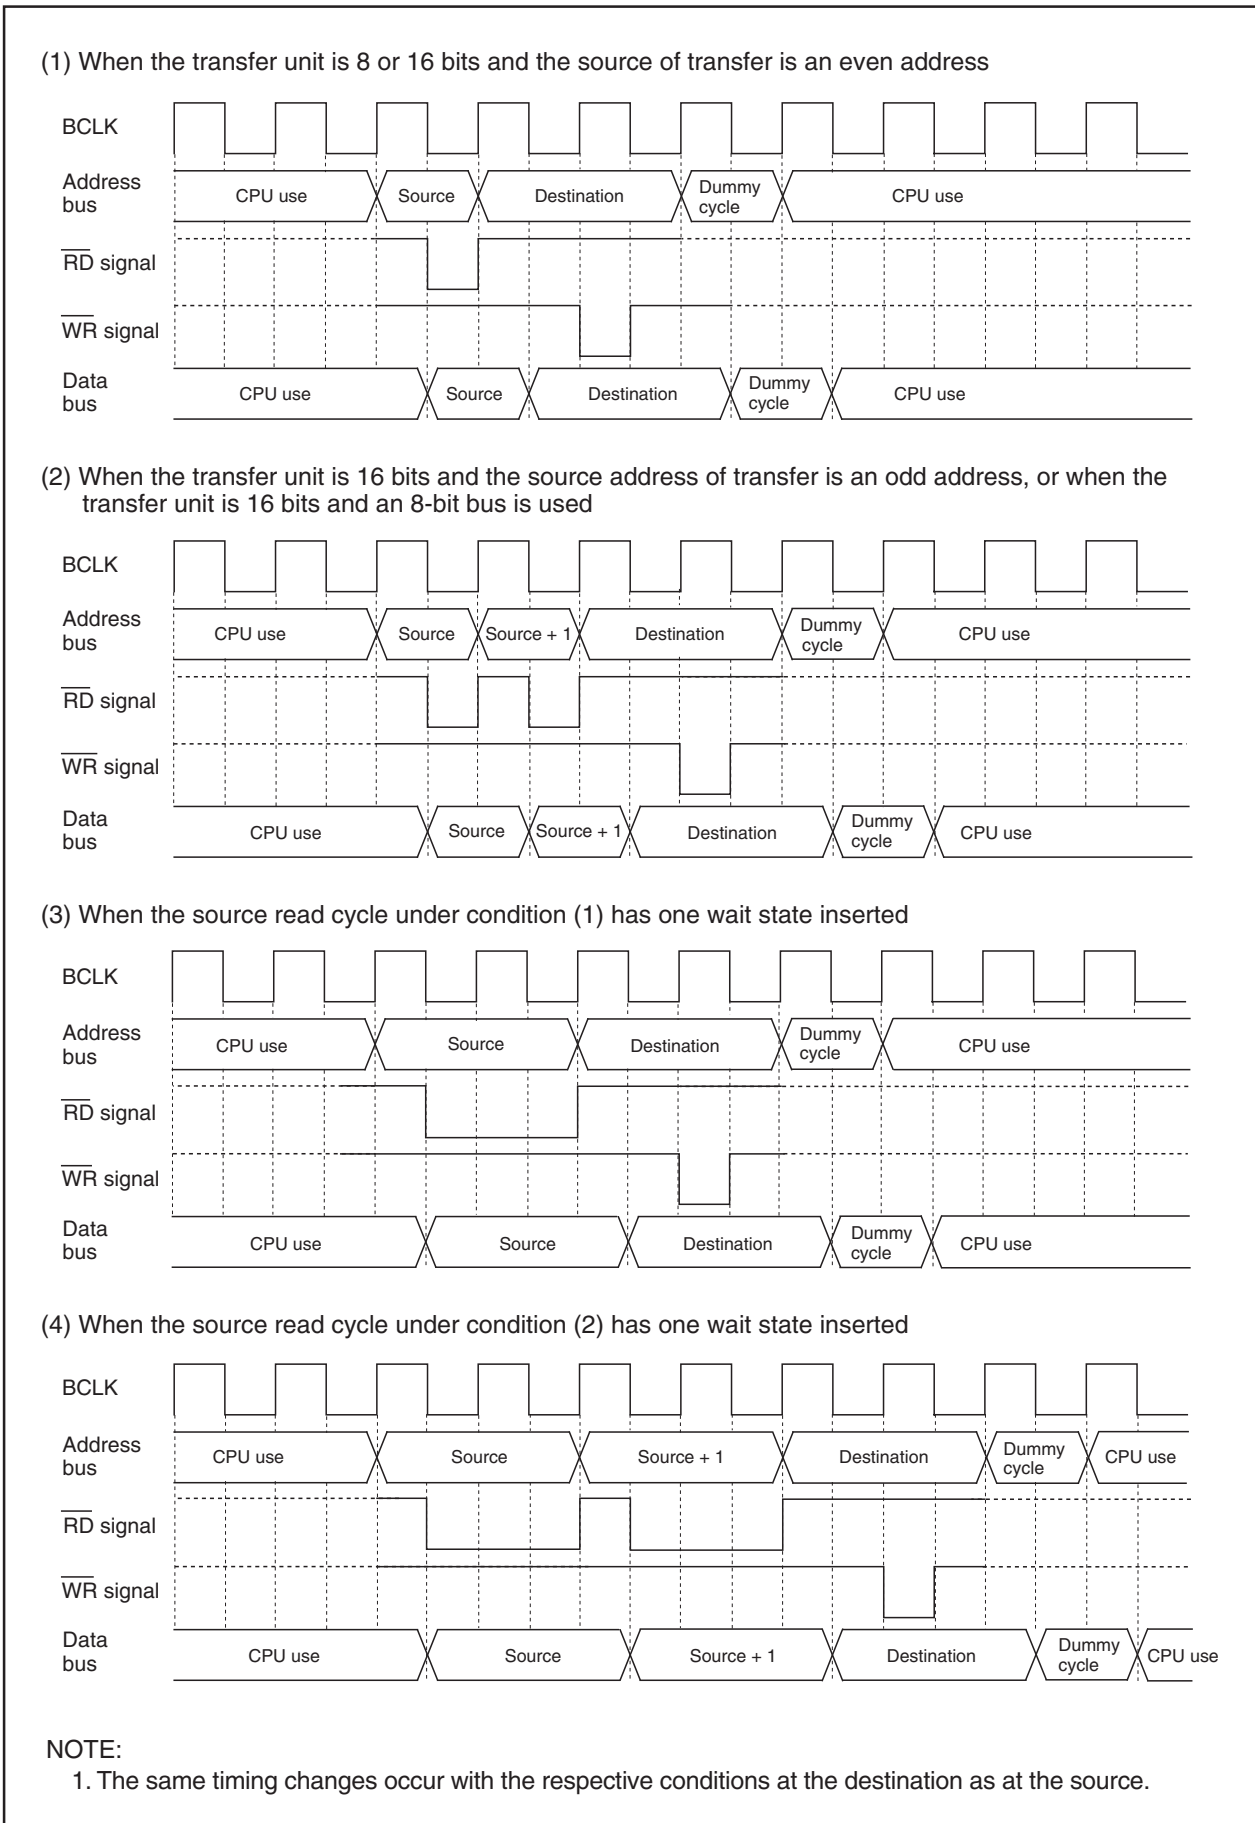

Figure 12.5 Transfer Cycles for Source Read
Figure 12.5 shows the Transfer Cycles for Source Read. For convenience, the destination write cycle is shown as one cycle and the source read cycles for the different conditions are shown. In reality, the destination write cycle is subject to the same conditions as the source read cycle, with the transfer cycle changing accordingly. When calculating transfer cycles, take into consideration each condition for the source read and the destination write cycle, respectively. For example, when data is transferred in 16-bit unit using an 8-bit bus ((2) on Figure 12.5), two source read bus cycles and two destination write bus cycles are required.